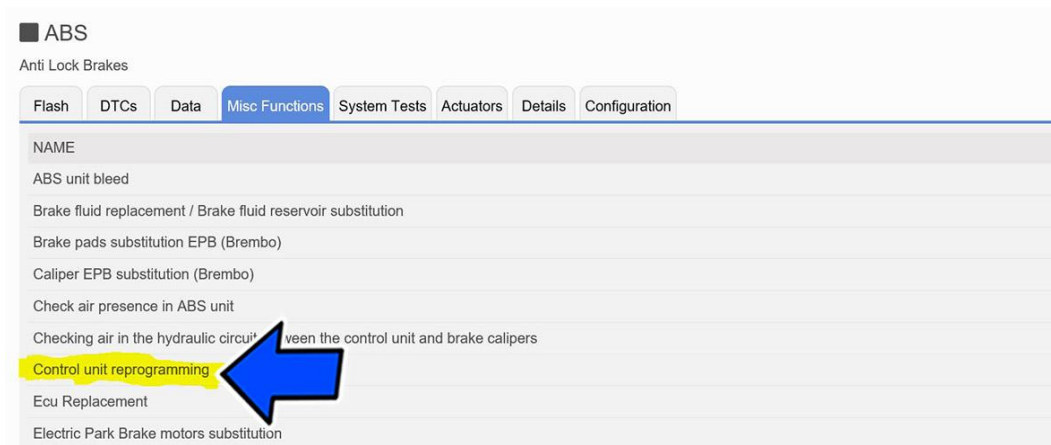

Figure 18 - Control Unit Reprogramming
- 17. From the ABS “Misc. Functions” tab, select and run the “Control Unit Reprogramming” routine (Figure 18).